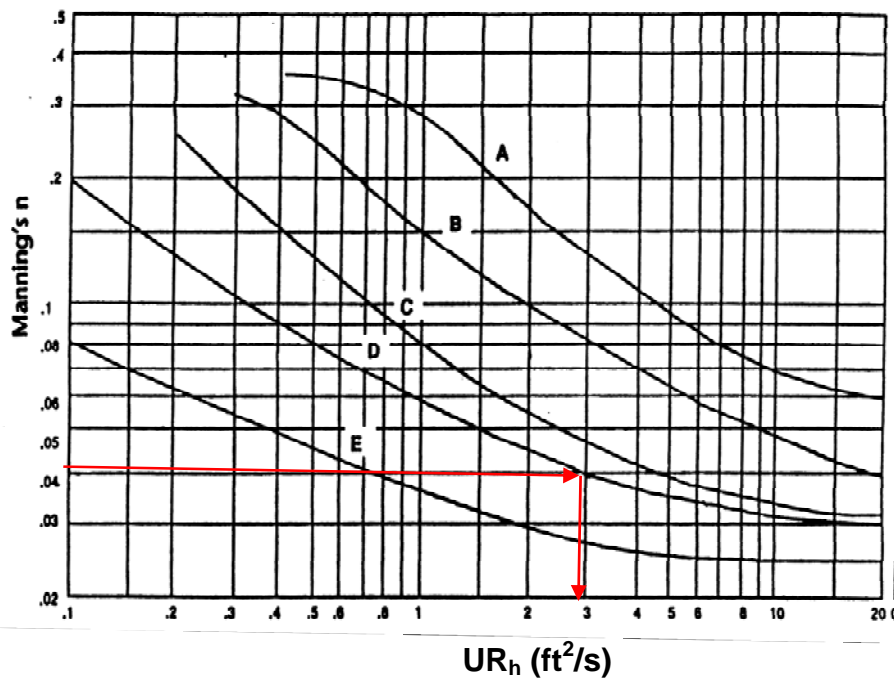

Figure 1. Relationship of Manning's n with  $UR_h$  (in  $ft^2/s$ ) for various degrees of flow retardance. ( $m^2/s = 0.09290 ft^2/s$ )
- (7) Finds trial velocity x hydraulic radius ( $UR_h$ ) values given maximum velocity ( $U_{max}$ ) determined from figure 1.